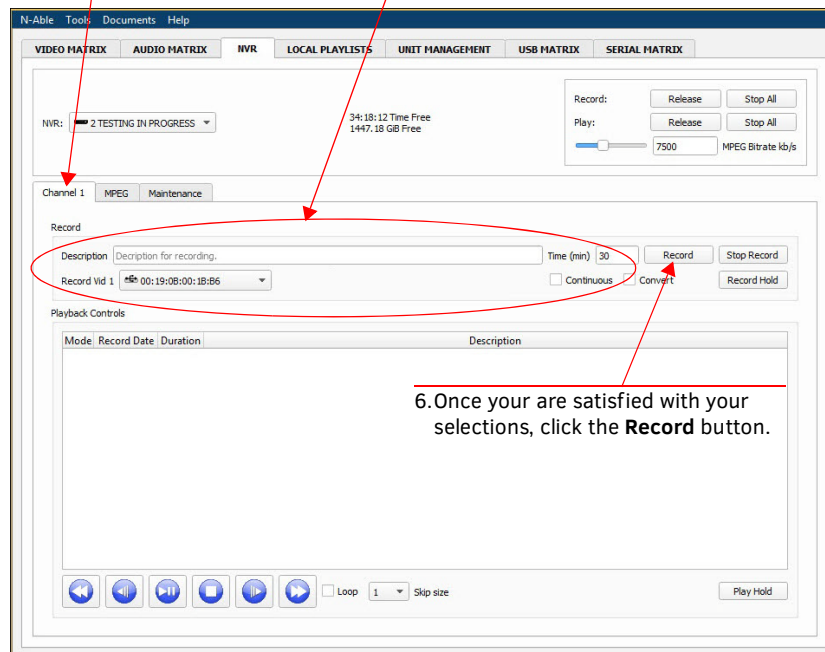
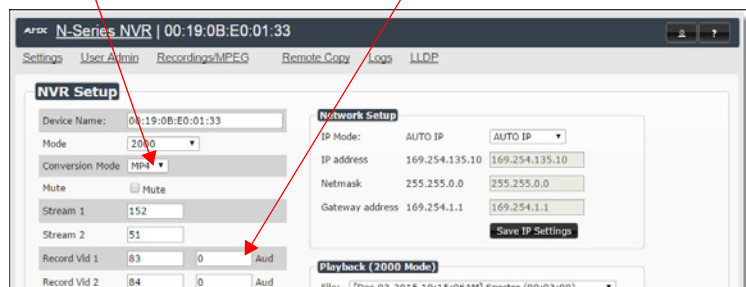

FIG. 11 RECORDING USING THE N6123
FIG. 12 CHOOSING CONVERSION MODE/SETTING AUDIO SOURCE
Follow the steps given in Figure 11 to record using the N6123.
- If you enable the **Convert** checkbox (shown previously in Figure 11) before you begin the recording, it will automatically convert to an MP4 or MOV file once complete. To change modes, use the **Conversion Mode** drop-down box on the N6123's **Settings** page (factory default is **MP4**). This is shown next in Figure 12.
- To change the audio stream being recorded, use the **Aud** field on the N6123's **Settings** page (also shown in Figure 12).